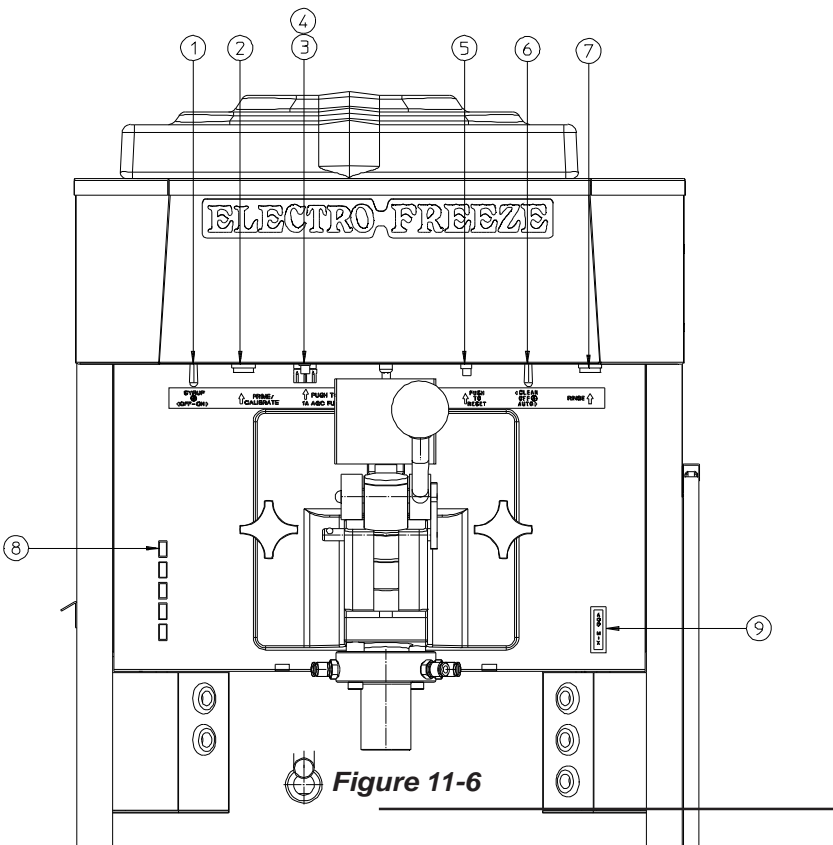

Figure 11-6
d. Place an empty bucket or container under the dispensing head. Turn syrup system switch to the "ON" position. (see figure 11-6, item 1)